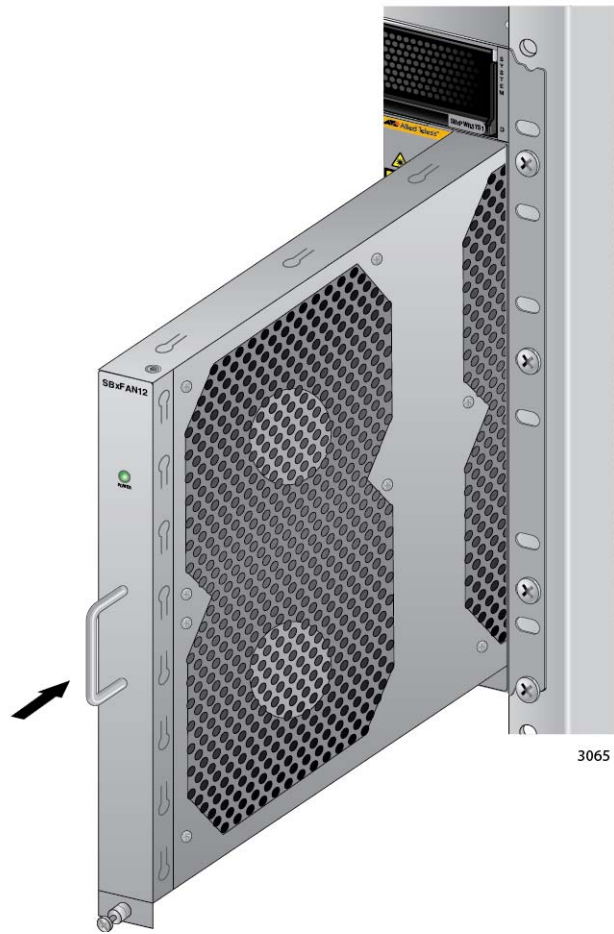

Figure 149. Installing a New AT-SBxFAN12 Fan Module
1. Orient the new module with the LED and module name on top and carefully slide the new module into the slot in the chassis. Refer to Figure 149 on page 239.